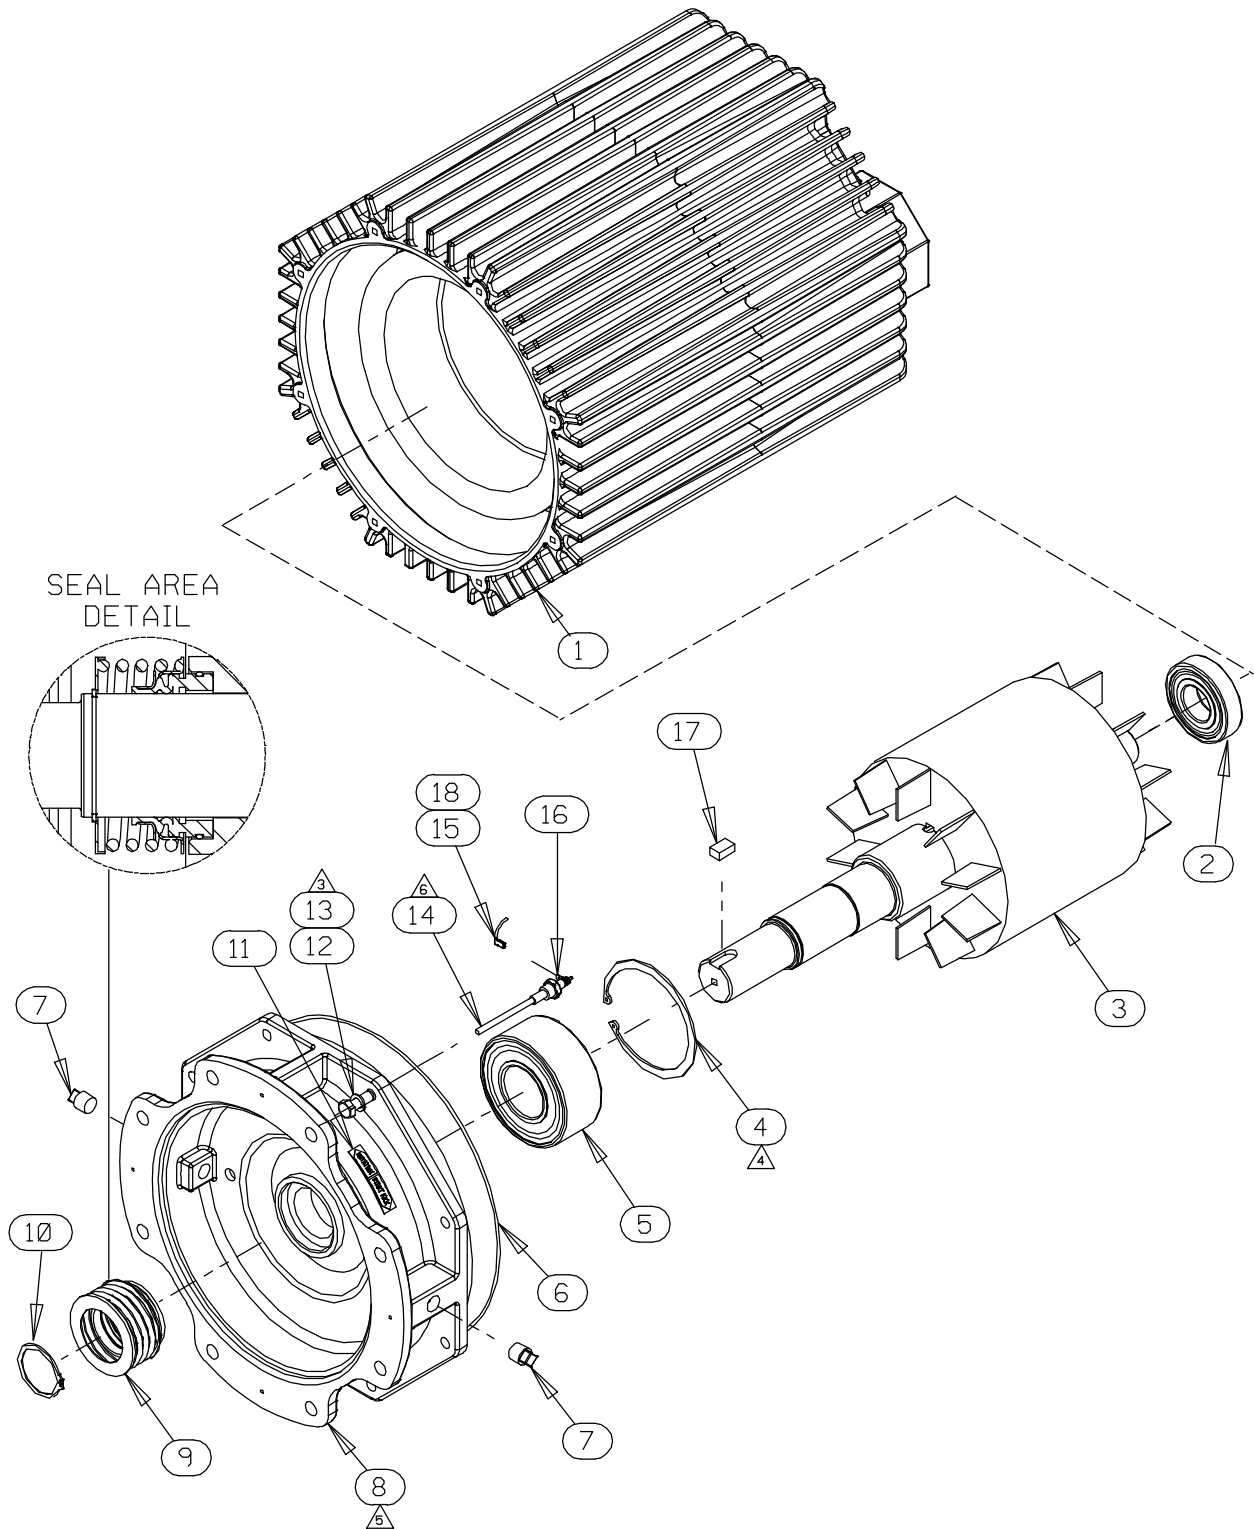

Figure E-2. 47111-848 and -849 Motor Assemblies
(Figure E-2)
To remove the impeller, use two thin-bladed screwdrivers positioned 180° apart to pry on the back of the impeller and “walk” the impeller off the shaft. Use increasingly larger screwdrivers (or wedges) as necessary. After the impeller comes free of the shaft, retain the impeller key (17, Figure E-2).
An alternate method of removing the stationary element is to remove the screws (11) securing the seal plate (16) to the motor assembly (19). Pry the assembled seal plate and stationary element off the shoulder of the intermediate (8, Figure E-2). Remove the O-ring (17) and press the stationary element and seat out of the seal plate from the back side.